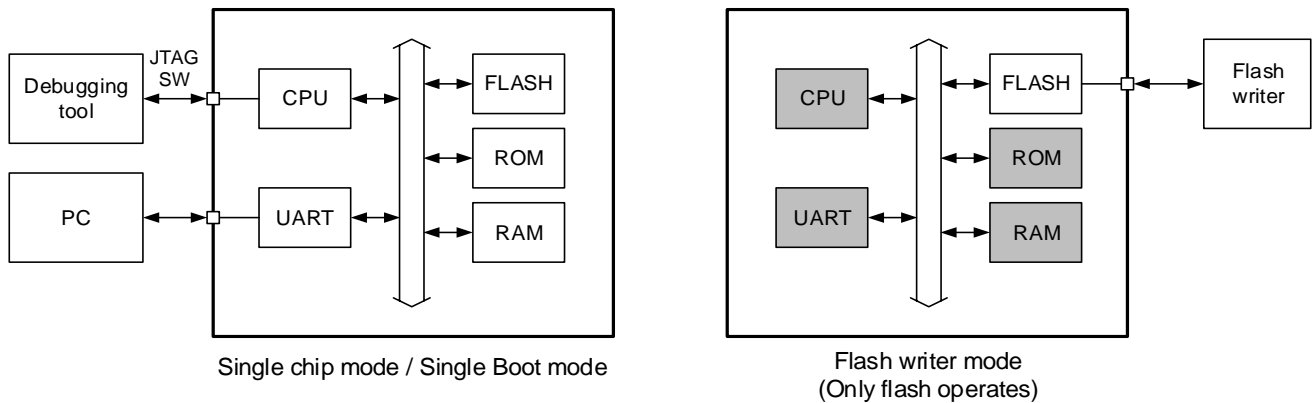

Figure 5.1 Measures for security risk
TMPM3H Group(2) contains two measures for security risk to prevent unauthorized access. Table 5.27, Table 5.28 and Figure 5.1 show the assumed access paths and protection targets for each operation mode.